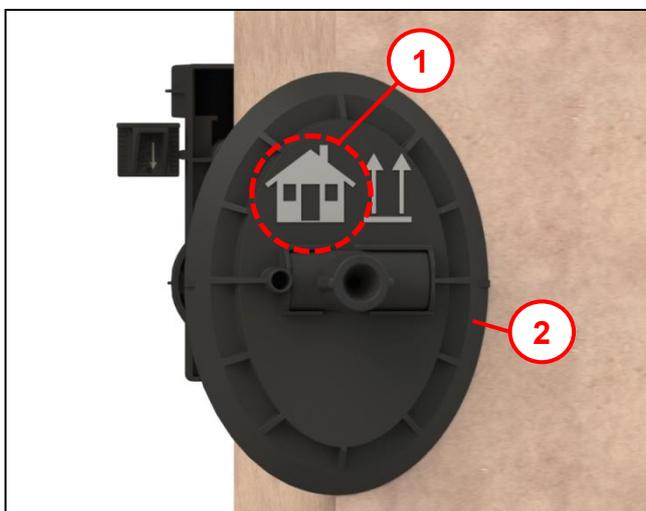

Fig. 18
- Place the foam pipe with outside flange (1) in the core hole and insert up to the beginning of the snap lug (note Fig. 18).
Continue with Fig. 18